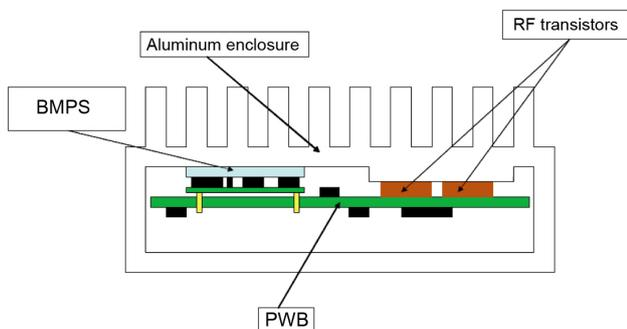

Figure 1 - Sealed box application example
Cooling in a sealed box application is achieved mainly by conduction from the BMPS baseplate to the enclosure which functions as a heatsink or "cold wall", often not only for the BMPS but also for other heat dissipating devices like radio frequency (RF) transistors. Figure 1 presents a typical example of sealed box applications.